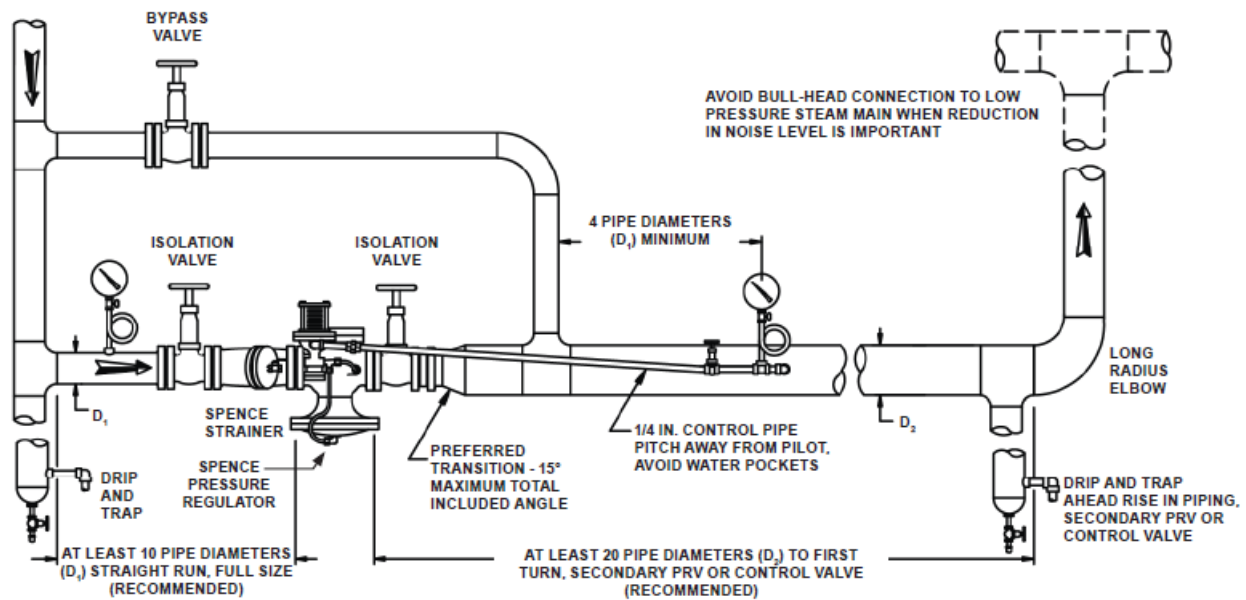

Figure 2. Type E5 Main Valve Installation
- Avoid damaging effects of scale and dirt in the pipe lines by using a strainer as shown in Figure 2.
2. Make this connection on the 1/4 in. pipe tap at the inlet of the main valve as shown in Figure 2.